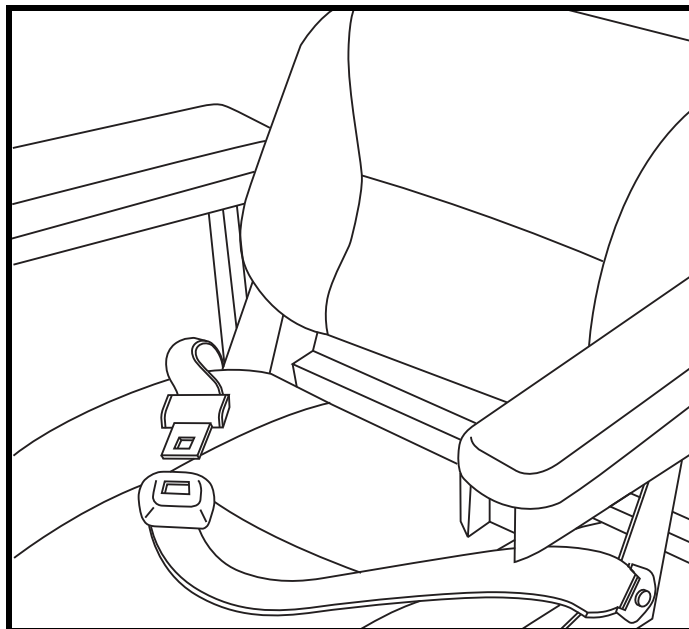

Figure 14. Positioning Belt Adjustment
Your power chair may be equipped with a positioning belt that can be adjusted for operator comfort. See **figure 14**. The positioning belt is designed to support the operator so that he/she does not slide down or forward in the seat. The positioning belt is not designed for use as a restraining device.
1. Once seated, insert the metal tab on one side of the belt into the plastic housing on the opposite side until you hear a click. See **figure 14**.